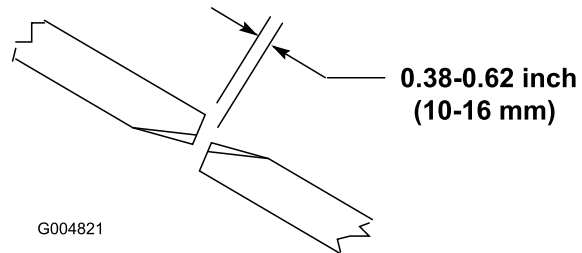

Figure 24
To ensure proper operation of the cutting unit, there must be 0.38-0.62 inch (10-16 mm) clearance between the tips of the wing and center cutting unit blades (Figure 24).
2. Rotate a center and adjoining wing blade so there blade tips are aligned. Measure distance between blade tips, distance should be approximately 0.38-0.62 inch (10-16 mm) (Figure 24).